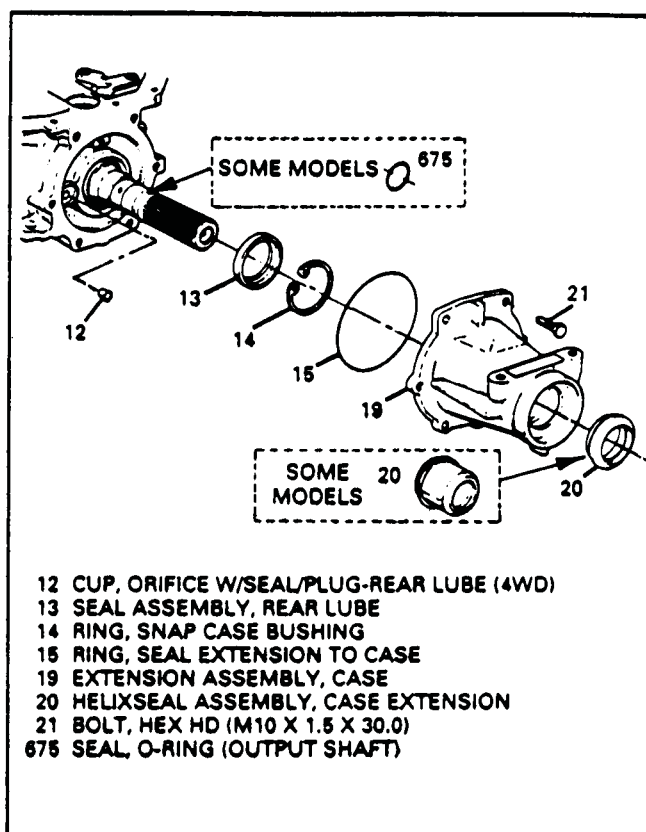

Figure 45
1. Remove the six extension housing bolts and remove extension housing. (See Figure 45).
2. Remove and discard the extension housing "O" ring seal (See Figure 45).
3. Remove the output shaft "O" ring seal shown in Figure 45. (Only Some Models).
4. Notice that there are two different type extension housing seals (20). (See Figure 45).